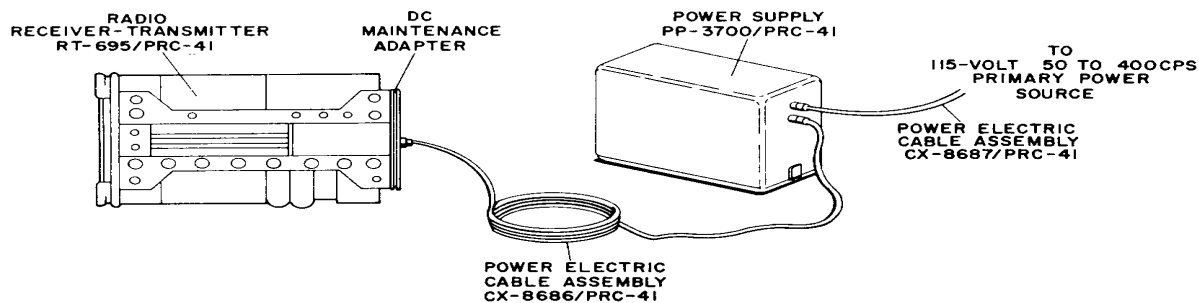

Figure 5-20. Radio Receiver-Transmitter RT-695/PRC-41, Standard Test Bench Setup
(3) PRELIMINARY TEST SETUP. - Refer to figure 5-20. Remove the Receiver-Transmitter Case CY-3884/PRC-41 from Radio Receiver-Transmitter RT-695/PRC-41 and connect the d-c maintenance adapter to the rear of the RT-695/PRC-41. Connect Power Electric Cable Assembly CX-8687/PRC-41 between Power Supply PP-3700/PRC-41 and the 115-volt primary source. Connect Power Electric Cable Assembly CX-8686/PRC-41 between Power Supply PP-3700/PRC-41 and the d-c maintenance adapter. Connect Handset H-